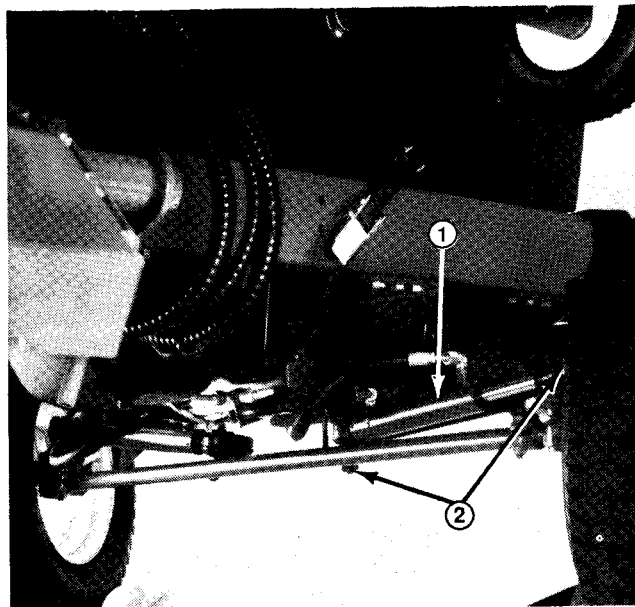

Figure 47
3. Remove cotter keys from castle nut on each end of cylinder (Fig. 47).